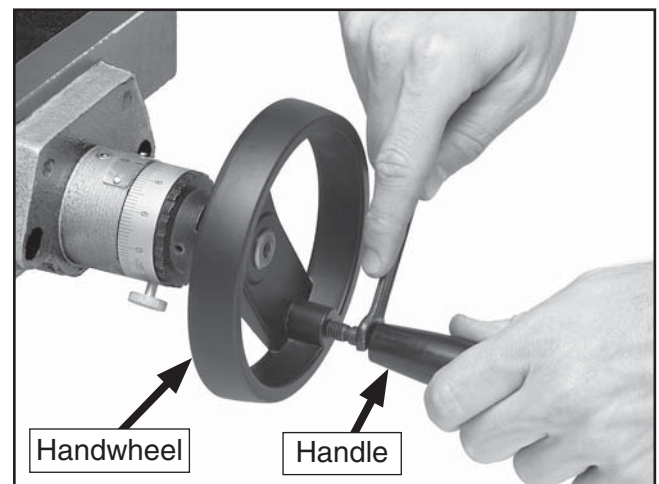

Figure 9. Handwheel assembly.
2. Screw the handle into the handwheel and tighten the lock nut against the wheel. This nut acts as a locknut and a spacer (**Figure 9**).